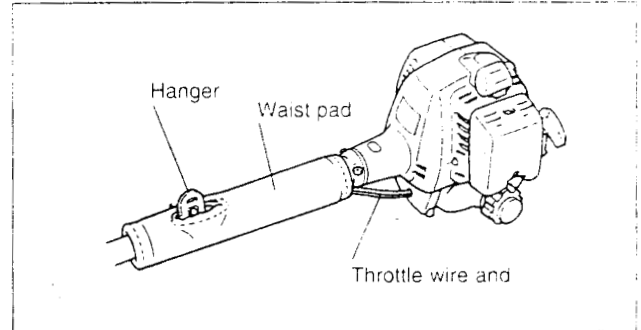

Fig. 8
4. Wrap the waist pad around the drive shaft so that the hanger will protrude through the slit in the waist pad and the throttle wire and cords will also be wrapped under the waist pad. (Fig. 8)